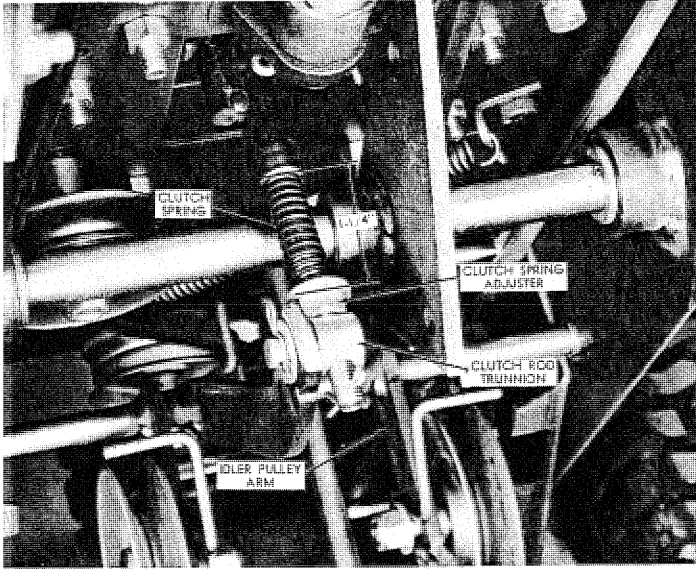

FIGURE 11
- Remove the hairpin cotter and washer and disconnect the attachment clutch rod trunnion (Item 1, Figure 9) from the clutch arm. See Figure 11 for enlarged view.
- Move the attachment clutch lever to the engaged (down) position and check the position of the idler pulley arms (Figure 11). The arms should hang straight down from the shaft. If they hang at an angle either forward or backward, release the clutch rod trunnion (Figure 11) and turn it up or down the rod as necessary to bring the arms to the correct position.
Check the length of the clutch spring. The basic setting is  $1\frac{1}{4}$ " as shown in Figure 11. If this amount of compression does not provide sufficient belt tension, tighten the spring as required with the adjusting nut.